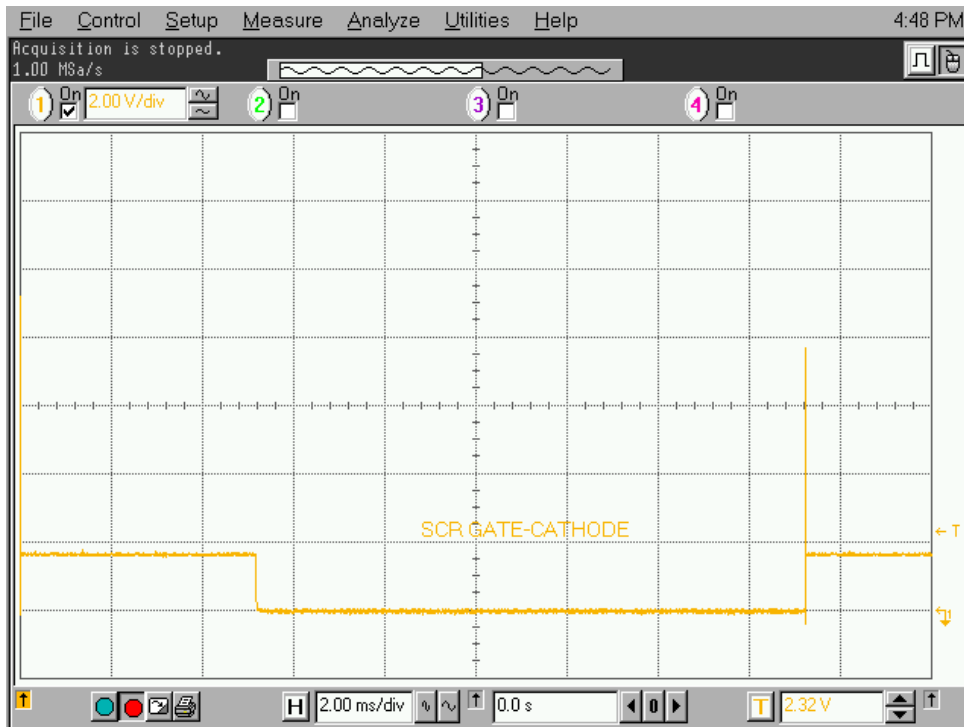

Figure 4.39 – SCR gating pulse
19. Verify that the signal between TP1 and TP2 is as shown in Figures 4.39 and 4.40.